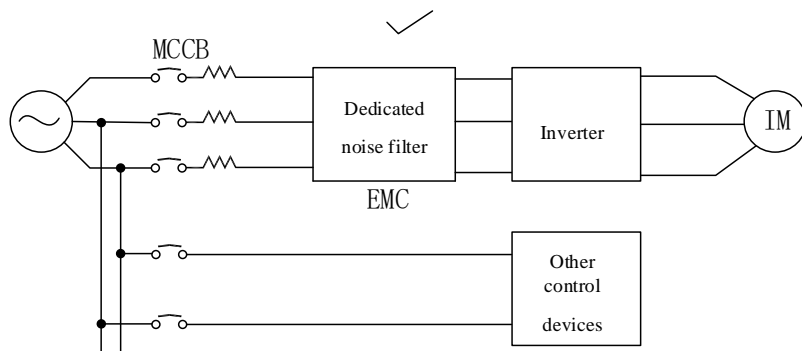
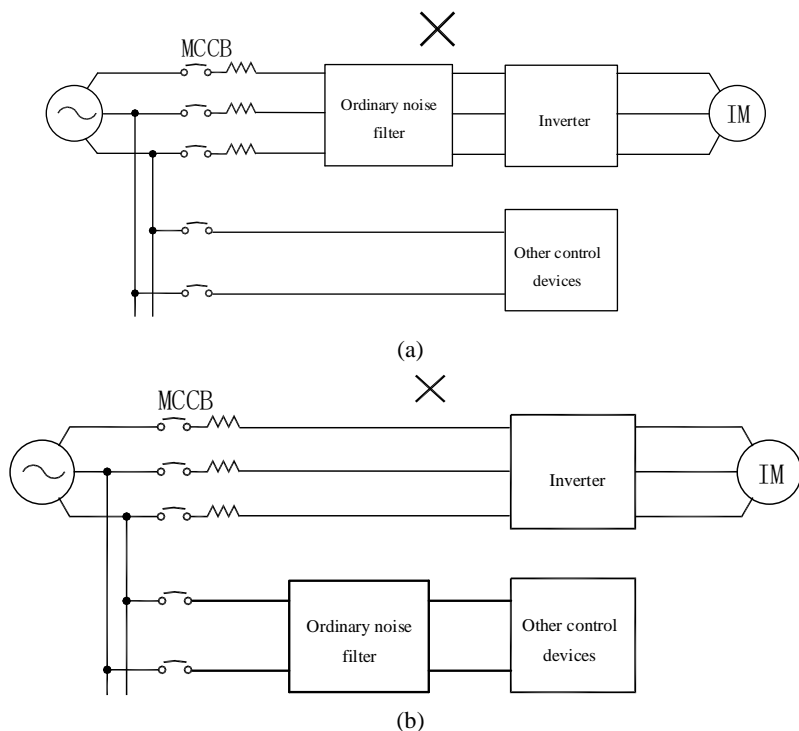

Fig.3-5 Correct Installation of Noise Filter
Fig. 3-6 Incorrect Installation of Noise Filter
- The correct and incorrect installations of the noise filter are shown in Fig. 3-5 and Fig. 3-6.